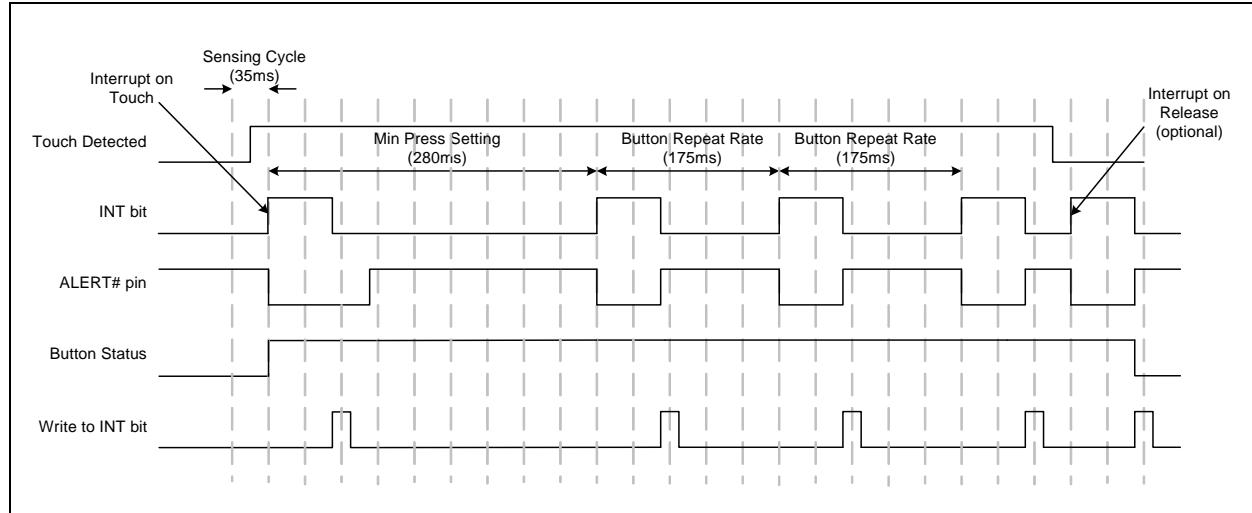
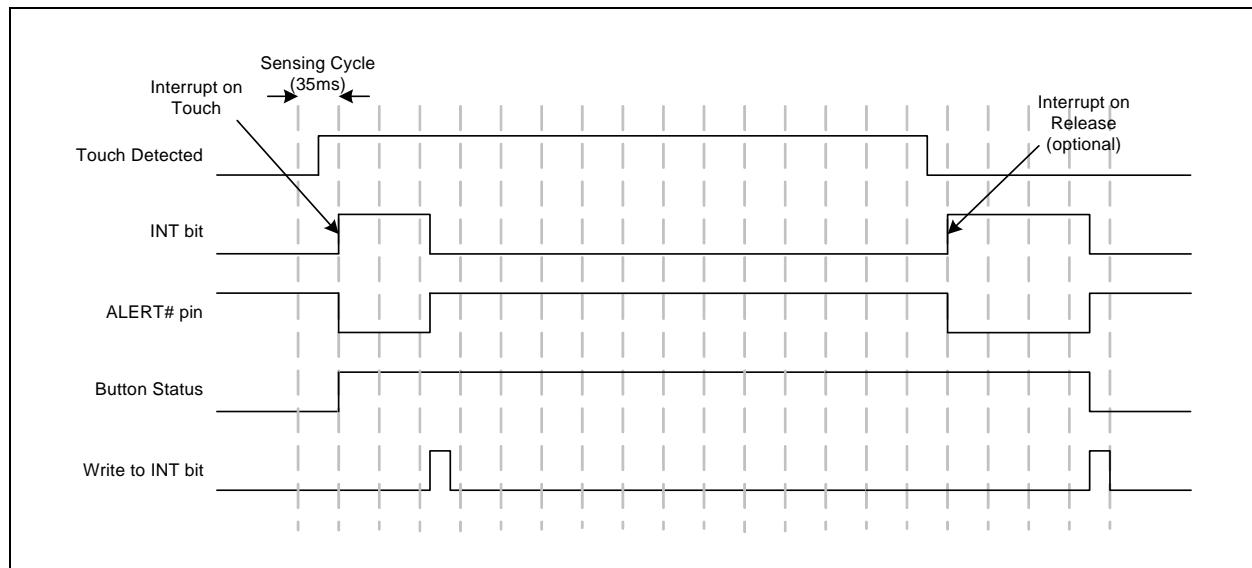

Figure 4.3 Sensor Interrupt Behavior - Repeat Rate Enabled
Figure 4.4 Sensor Interrupt Behavior - No Repeat Rate Enabled
1. An interrupt is generated when a touch is detected and, as a user selectable option, when a release is detected (by default - see INT_REL_n in Section 5.6.2, "Configuration 2 - 44h"). See Figure 4.4.
2. If the repeat rate is enabled then, so long as the touch is held, another interrupt will be generated based on the programmed repeat rate (see Figure 4.3).
APPLICATION NOTE: Figure 4.3 and Figure 4.4 show default operation which is to generate an interrupt upon sensor pad release.